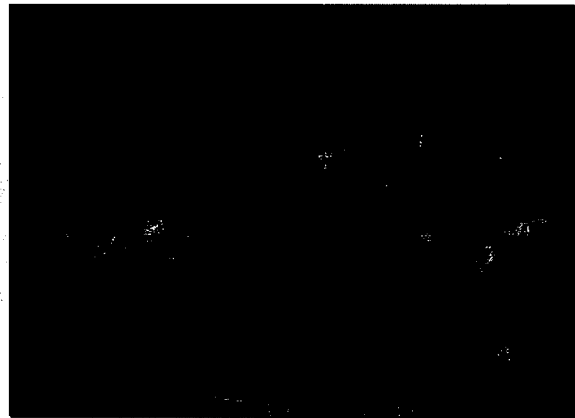

Figure 16
4. Go to the front of the machine and pull downward on the brush or pad until it releases from the flex plates. See figure 16.